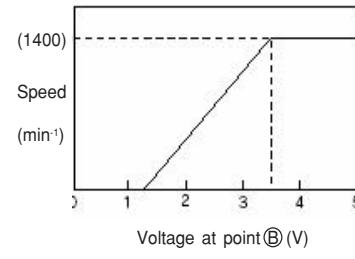

Fig. 7-3
- The pulse is converted into the analog voltage by the R751 and C751 and applied to the fan motor as the speed command voltage. Fig. 7-3 shows the relation between the voltage at the point B and the speed. (Some differences will occur due to the condition of the unit.)
- The fan motor outputs the feedback pulse of the speed, which is input into the pin (14) on the micro computer. This pulse is equivalent to a frequency of 12/60 speed. (Example: $1000 \text{ min}^{-1} \times 12/60 = 200 \text{ Hz}$) The micro computer monitors the frequency and adjusts the output pulse range of the pin (24) so as to keep the command speed.